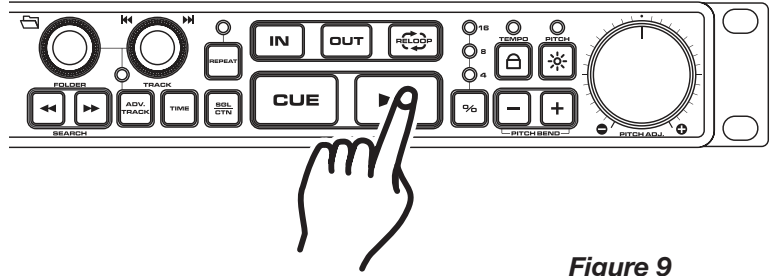
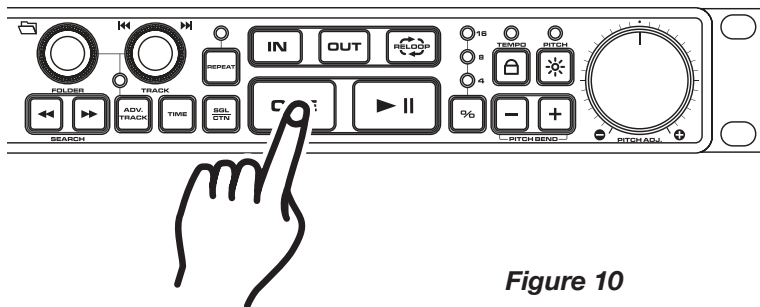
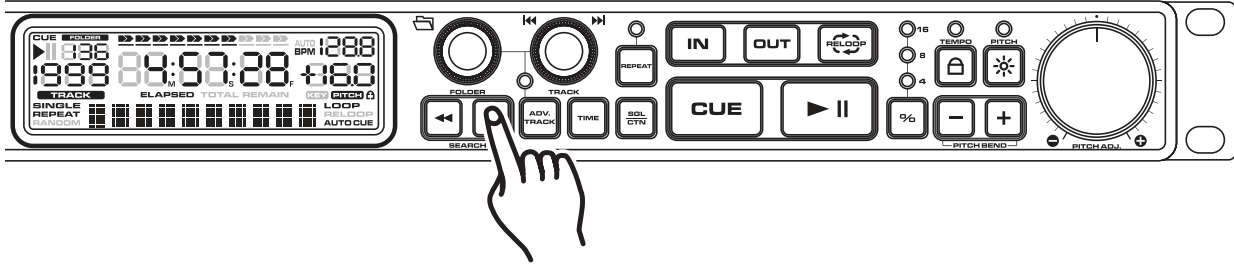

Figure 9
Figure 10
Figure 11
3. STARTING PLAYBACK - Figure 9
4. PAUSING - Figure 9
5. STOPPING PLAYBACK - Figures 9 & 10
This feature allows you to scroll through a track frame by frame, allowing you to find and set a starting cue or loop point. To use the scroll function you must first be in Pause Mode (see section 4) or Cue Mode (see section 8). Once you are in Pause or Cue mode, press the *SEARCH BUTTONS* (19) to scroll through the track (Figure 11). When you use the *SEARCH BUTTONS* (19) the monitor function allows you to here what you are scrolling through. Once you reach your desired starting point you can set a cue (starting) point by pressing the *PLAY/PAUSE BUTTON* (14) as in Figure 9. Pressing the *CUE BUTTON* (15) as in Figure 10 will now return you to the point you just set.